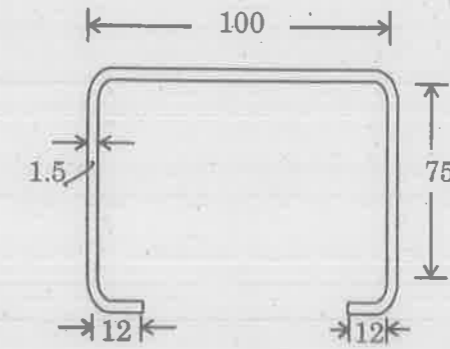

Fig. 2.
18. Determine the allowable load per meter on a beam with cross section as shown in Fig. 2. The beam has an effective span of 2 m.  $f_y = 235 \text{ N/mm}^2$ .